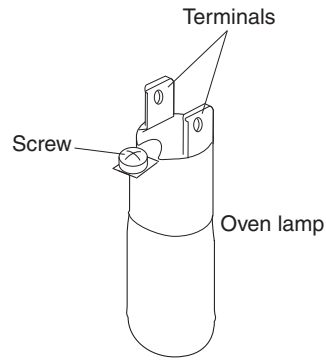

Figure C-1. Oven lamp
4. Remove the wire leads from the oven lamp the terminal by pushing on the positive lock lever (Fig C-1).